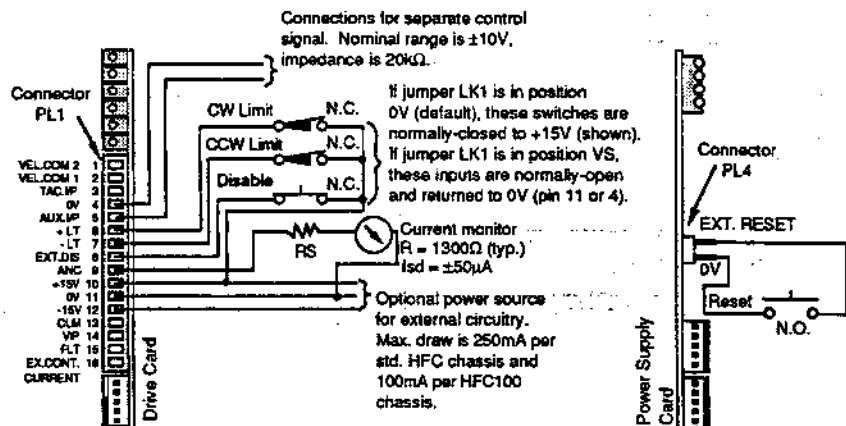

Figure 3-3. I/O Connections
Figure 3-3 below is an overall I/O connection diagram.
You can install normally-open or normally-closed switches, depending on the input polarity setting via jumper LK1 (see *Changing The Input Polarity* below). The default setting (0V) is for using normally-closed switches returned to +15V to ensure that motion is stopped if the limit is tripped or if the limit connection is broken. When the load trips (opens) the limit switch, the motor current is reduced to zero. Use mechanical switches or, if LK1 is in position VS, open-collector outputs. Refer to Figure 3-3 for limit input switch connections.
You can enable the relevant axis by opening or closing this input switch between EXT.DIS (PL1 pin 8) and +15V (PL1 pin 10), depending on the position of jumper LK1 (see *Changing The Input Polarity* below). The default position for LK1 is 0V, allowing the use of a normally-closed (*normally-enabled*) switch to +15V (see Figure 3-3). However, if LK1 is in the VS position, the input switch must be normally-open and returned to 0V (PL1 pin 4 or pin 11).
A $\pm 50\mu A$ meter could be used with an external series resistor, the value (RS) of which depends on the coil resistance of the meter (see example in Figure 3-3). In this case, a series resistor of $236k\Omega$ will give a full-scale deflection of $\pm 24A$.
For the standard HFC chassis, up to 250mA may be drawn from PL1 pins 10 and 12 to power external circuitry (see Figure 3-3 for connections). 250mA is the total current per chassis, not per drive card.
You can use the 24VDC unregulated output to power custom external circuitry via connector PL14. **Ensure that the maximum current taken from this supply does not exceed 500mA.** Refer to Figure 3-3 for connections.
You can use the EXT.RESET input (PL4 pin 1 on the power supply card) either to reset the drive in the event of a fault (provided the fault has been located and rectified), or to disable all axes simultaneously. To activate the reset, ground this input to 0V (PL4 pin 2) for a minimum period of one second. Refer to Figure 3-3 for connections.
1. Make sure the limit switches are wired properly (see Figure 3-3).
1. Make sure the disable switch is wired properly (see Figure 3-3).
If you wired a remote reset input (see Figure 3-3 for proper connections), test it now by holding the switch closed for at least 0.5 second (this should simultaneously disable all the drives). The drive(s) will be re-enabled when you release (open) the switch.